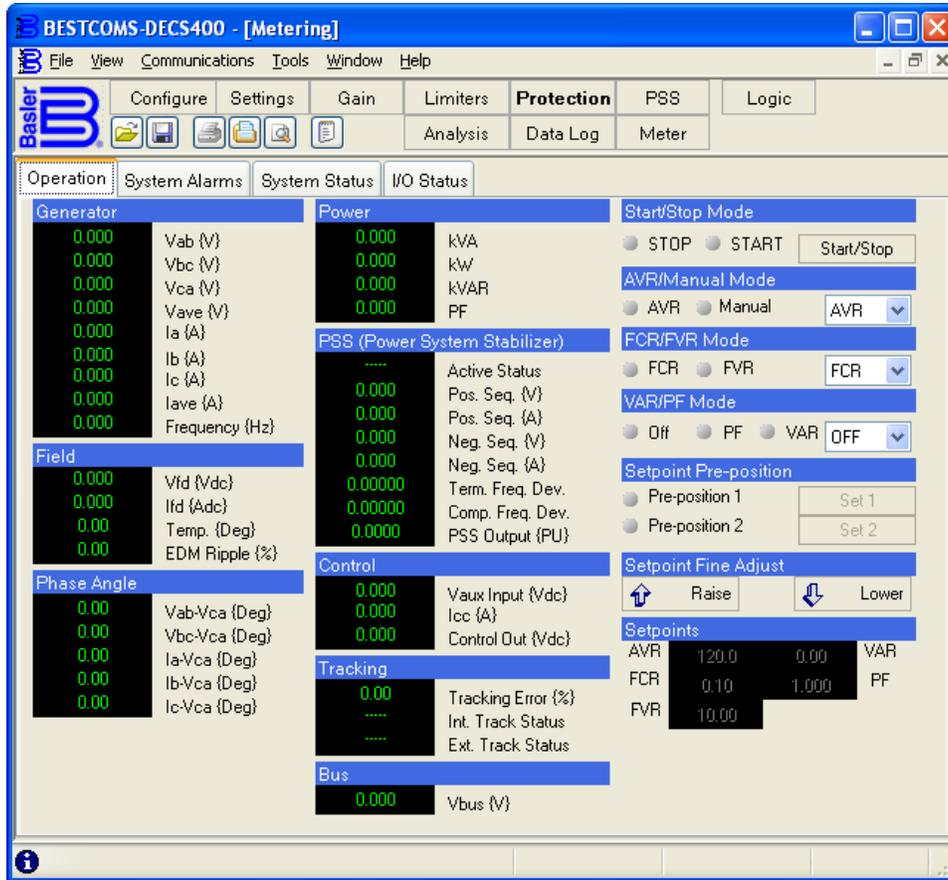

Figure 6-1. BESTCOMS Metering Screen, Operation Tab
- Start/Stop from the Operation tab of the BESTCOMS Metering screen (see Figure 6-1 for illustration of Operation tab) _____